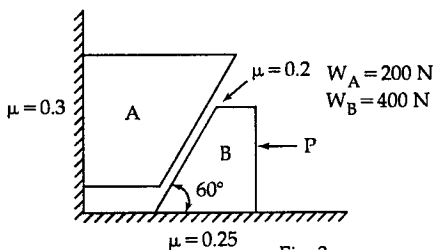

Fig. 3
2. (a) Find the minimum value of horizontal force P to be applied to the lower block to hold the system under equilibrium as shown in fig.3